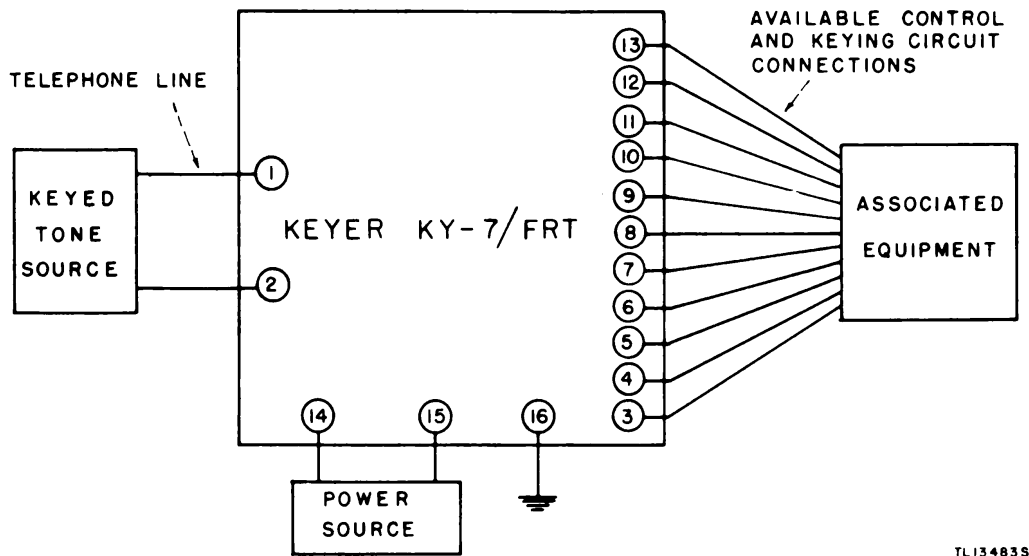

Figure 5. Keyer KY-7/FRT, interconnection diagram.
b. Terminal strip TS1 provides all of the necessary terminals for connecting to the external equipment, telephone line, and a-c power source. Details of these connections are shown in figure 5 and the following legend: